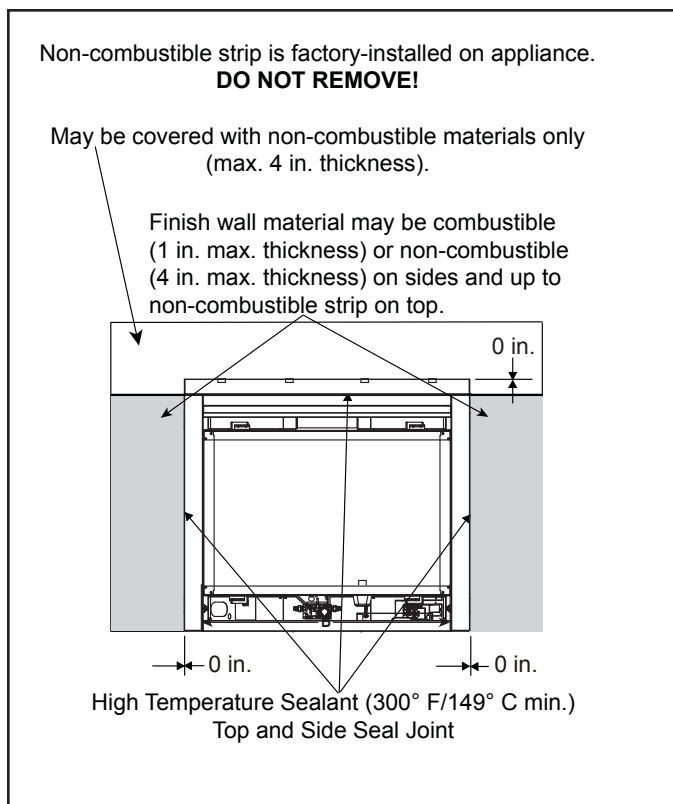

Figure 10.1 Non-combustible Facing Diagram
- Seal joints between the finished wall and appliance top and sides using a 300°F minimum sealant. Refer to Figure 10.1.